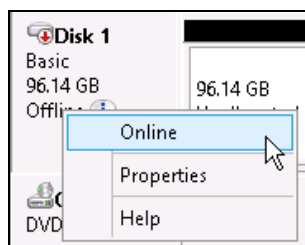

Figure 3-25 Changing the Disk to Online
15. Right-click the disk and select **Online** (see Figure 3-25) to bring the volume online. Then, initialize the disks.